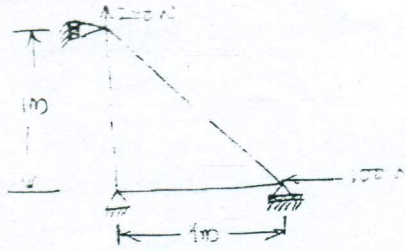

Fig Q6(b)
- b. Determine the nodal displacements in the truss segments subjected to concentrated load as shown in Fig. Q6(b). Take $E = 70\text{GPa}$, $A = 0.01\text{m}^2$. (10 Marks)